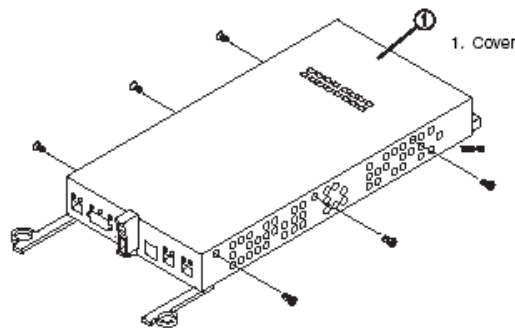

FIGURE 7-11 Removing the Controller Cover (Upside Down View)
- a. Turn the controller upside down, remove the screws securing the controller cover, and remove the cover. Figure 7-11 shows the cover and screws.
- c. Replace the controller cover and secure the screws. Figure 7-11 on page 7-26 shows these screws.